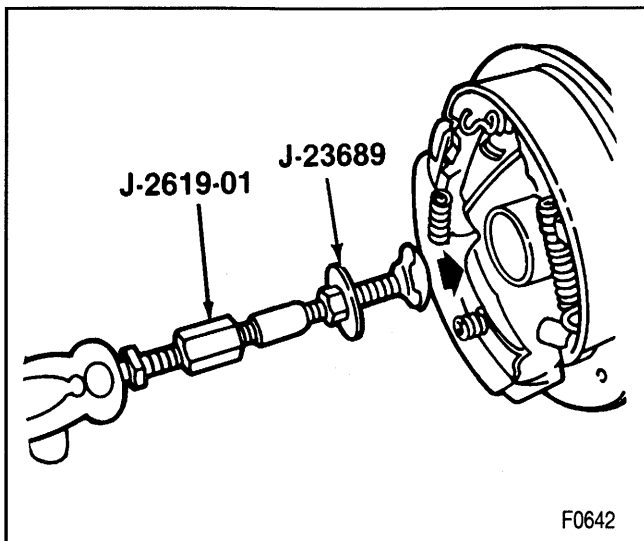

Figure 11—Removing the Bearing and Seal
B. Insert the tool into the axle bore so that it grasps behind the bearing (figure 11). Tighten the nut and washer against the face of the bearing. Pull the bearing out using J 2619-01.